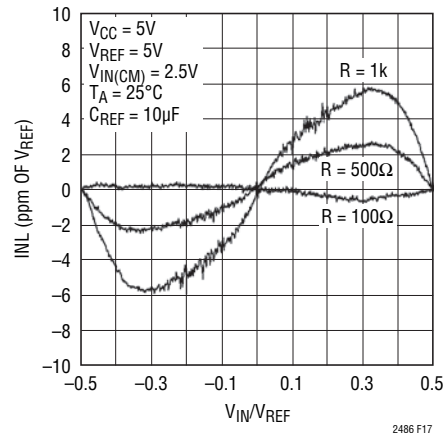

Figure 17. INL vs Differential Input Voltage and Reference Source Resistance for $C_{REF} > 1\mu\text{F}$
0.67 ppm per 100Ω of reference resistance results (see Figure 17). In applications where the input and reference common mode voltages are different, the errors increase.